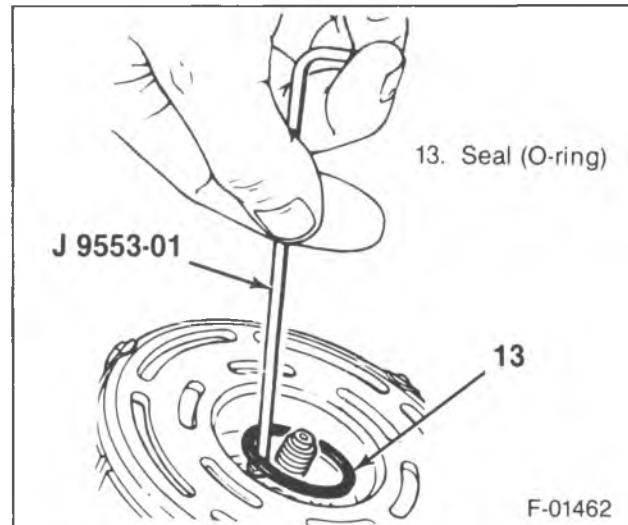

Figure 18—Removing and Installing the Shaft Seal
- 4. Seal (o-ring) (13) with J 9553-01 (figure 18).